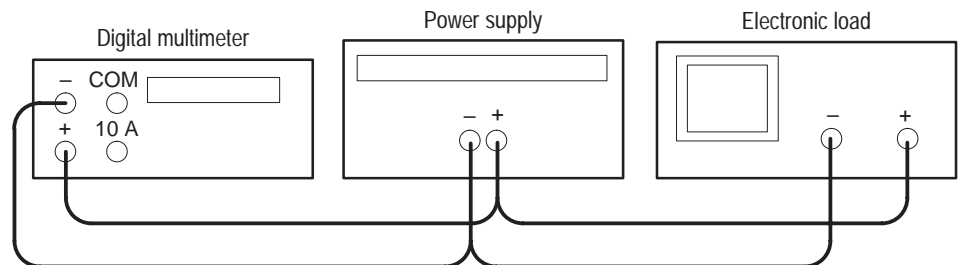

Figure 2: Constant voltage load test setup
2. Ensure that the power supply output is disabled. Connect the DMM and electronic load to the front panel OUTPUT 1 terminals. See Figure 2 for details.
6. Enable the electronic load. Adjust the load until the power supply CURRENT (A) readout indicates 1.500 A.
11. Ensure that the power supply output is disabled. Remove the leads from the front panel OUTPUT 1 terminals and connect them to the OUTPUT 1 terminals on the rear of the instrument. Maintain the equipment configuration and polarities shown in Figure 2.
15. Ensure that the power supply output is disabled. Connect the DMM and electronic load to the front panel OUTPUT 2 terminals. Maintain the equipment configuration and polarities shown in Figure 2.
17. Ensure that the power supply output is disabled. Remove the leads from the front panel OUTPUT 2 terminals and connect them to the OUTPUT 2 terminals on the rear of the instrument. Maintain the equipment configuration and polarities shown in Figure 2.
2. Ensure that the power supply output is disabled. Connect the DMM and electronic load to the front panel OUTPUT 2 (+) and OUTPUT 1 (–) terminals. Maintain the equipment configuration and polarities shown in Figure 2.
6. Ensure that the power supply output is disabled. Remove the leads from the front panel OUTPUT 2 and OUTPUT 1 terminals and connect them to the OUTPUT 2 (+) and OUTPUT 1 (–) terminals on the rear of the instrument. Maintain the equipment configuration and polarities shown in Figure 2.
2. Ensure that the power supply output is disabled. Connect the DMM and electronic load to the front panel OUTPUT 2 terminals. Maintain the equipment configuration and polarities shown in Figure 2.
6. Enable the electronic load. Adjust the load until the power supply CURRENT (A) readout indicates 3.000 A.
11. Ensure that the power supply output is disabled. Remove the leads from the front panel OUTPUT 2 terminals and connect them to the OUTPUT 2 terminals on the rear of the instrument. Maintain the equipment configuration and polarities shown in Figure 2.
2. Ensure that the power supply output is disabled. Connect the DMM and electronic load to the front panel OUTPUT 3 terminals. Maintain the equipment configuration and polarities shown in Figure 2.
11. Ensure that the power supply output is disabled. Remove the leads from the front panel OUTPUT 3 terminals and connect them to OUTPUT 3 on the rear of the instrument. Maintain the equipment configuration and polarities shown in Figure 2.